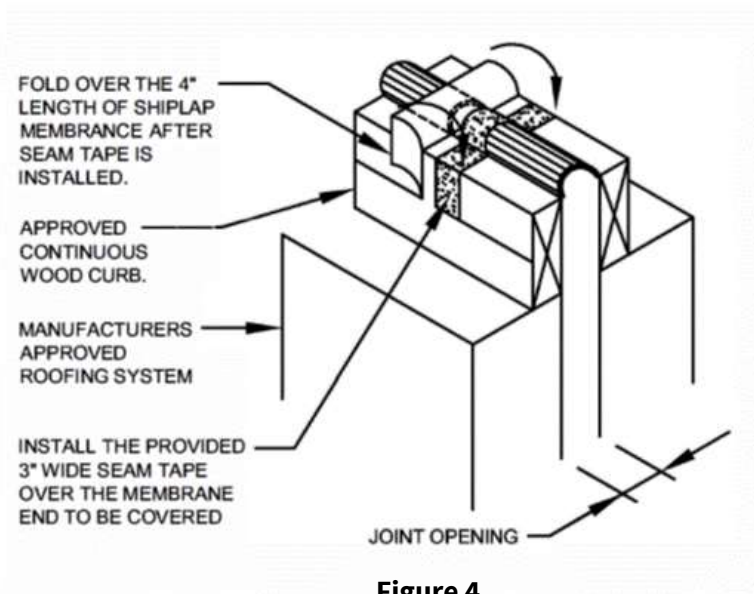

Figure 4
4. Install the provided 3" wide seam tape over the membrane end to be covered with shiplap membrane. Fold over the shiplap membrane onto the seam tape while peeling away the release paper of the seam tape. Smooth into place. Type at each splice location. **See Figure 4**